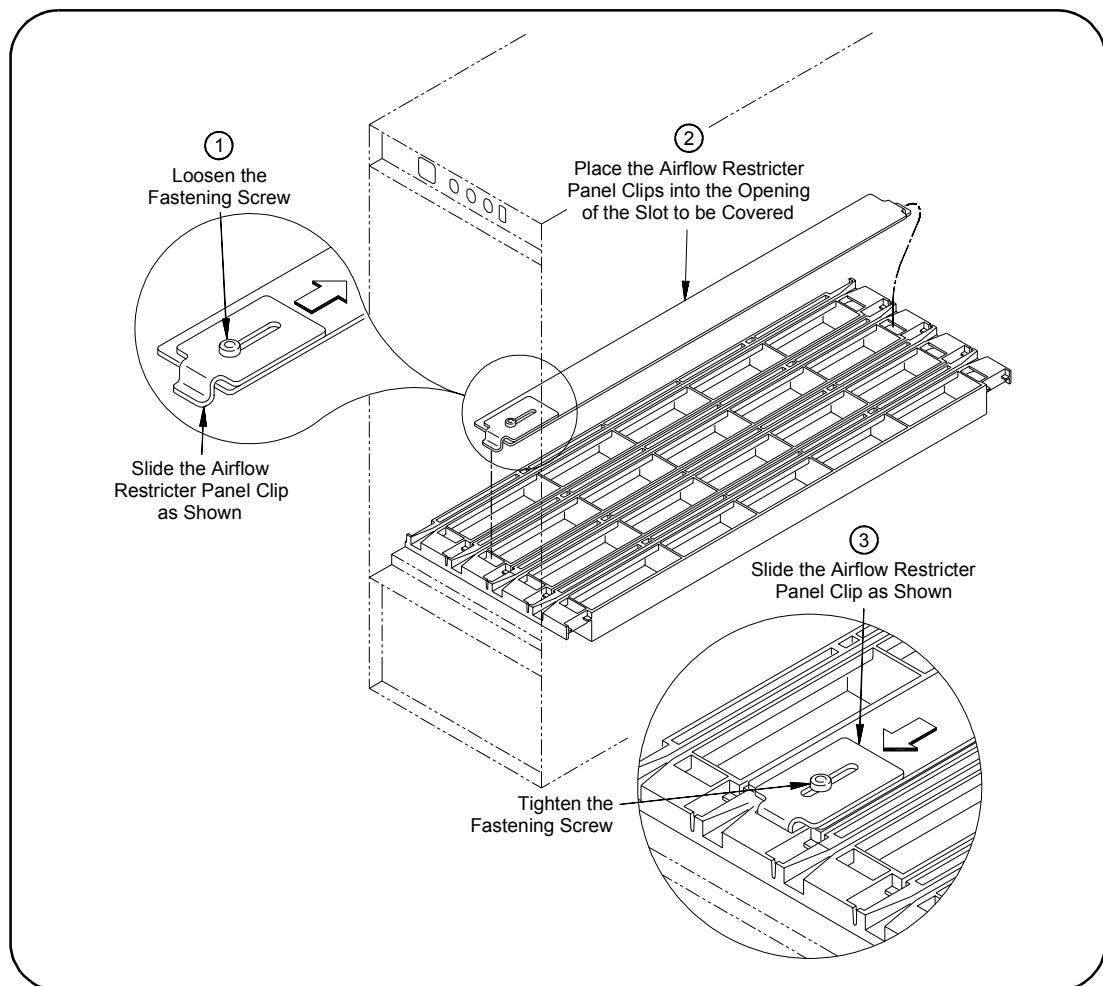

Figure 2-18. Installing the Airflow Restrictor
- 4 Secure each Support Rail to the columns as shown in Figure 2-18.
Connect/Route VXI Instrument Cables (Figure 2-18)